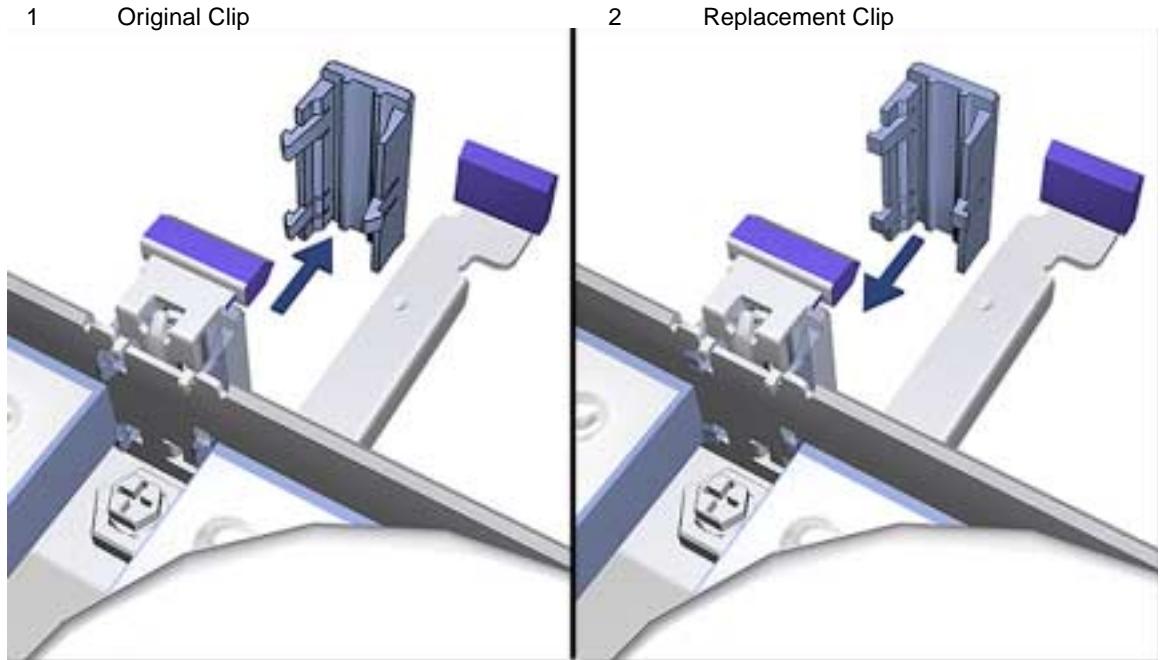

FIGURE 5 Replacing the Hard Drive Tray Latch Clip
1. Pinch the edge of the clip and remove the clip. See FIGURE 5.